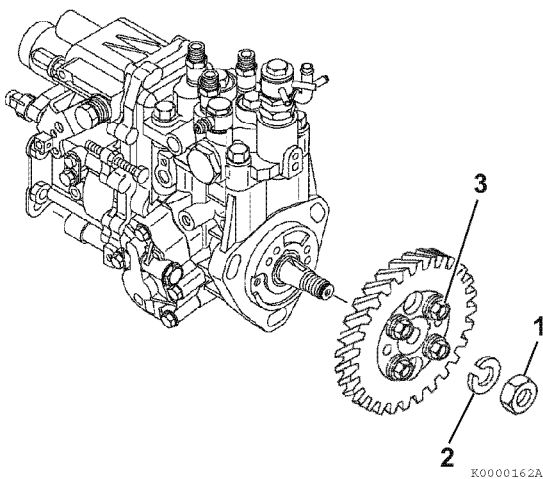

Figure 7-14
- Do not loosen or remove the four bolts (3, **Figure 7-14**) retaining the pump drive gear to the hub. Loosen the drive gear mounting nut (1, **Figure 7-14**), leaving the hub attached to the gear.
- 18. Hold the gear train using a large socket wrench on the crankshaft pulley nut. Loosen the fuel injection pump drive gear retaining nut (1, **Figure 7-14**) and turn it out to the end of the fuel injection pump shaft. (Until the tip of the camshaft is hidden.)